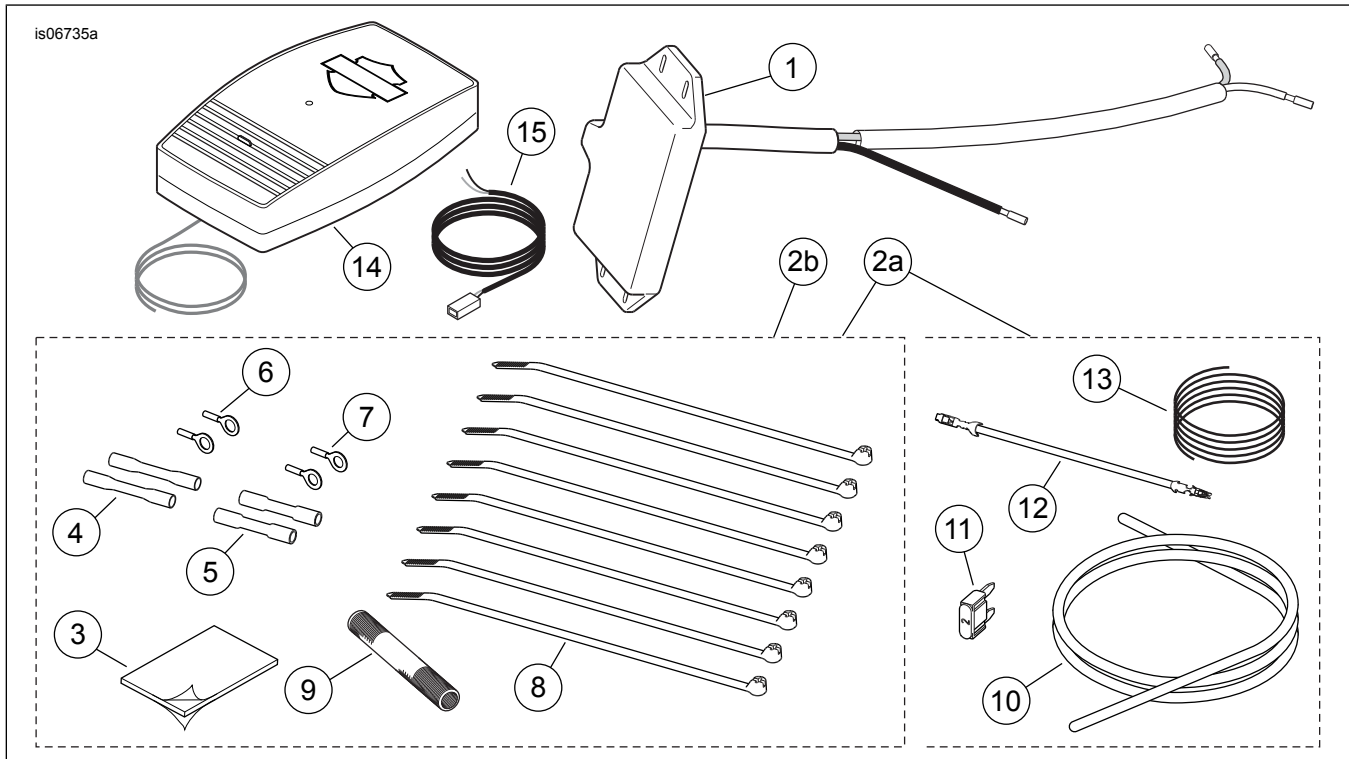

Figure 27. Service Parts, Remote Control Garage Door Opener Kits
4. See Figure 15, the 1 into 1 splice configuration. Use a **blue** sealed splice connector (Figure 27, Item 5) from the kit to splice the white transmitter wire to the white headlamp wires. Use the remaining blue sealed splice connector to splice the yellow transmitter wire to the yellow headlamp wires.
3. Slide the woven wire conduit (9) from the kit over the yellow and white transmitter wires.
2. See Figure 27. Slide the woven wire conduit (9) from the kit over the yellow and white transmitter wires.
- See Figure 15, the 1 into 1 splice configuration. Use a **blue** sealed splice connector (Figure 27, Item 5) from the kit to splice the white transmitter wire to the white headlamp wires. Use the remaining blue sealed splice connector to splice the yellow transmitter wire to the yellow headlamp wires.